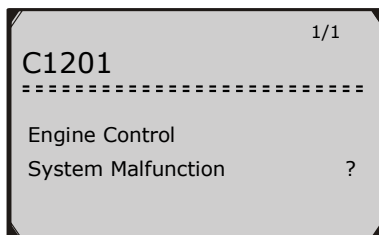

Figure 4.3
- 3) Review selected data on screen. (Figure 4.3)